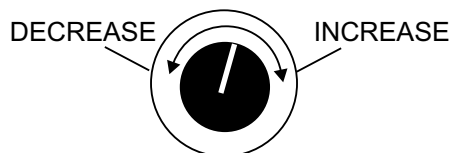

Figure 29. Voltage Adjust Control Knob
- If the voltage is not within the specified tolerance use the voltage adjustment control knob (Figure 29) to increase or decrease the desired voltage.